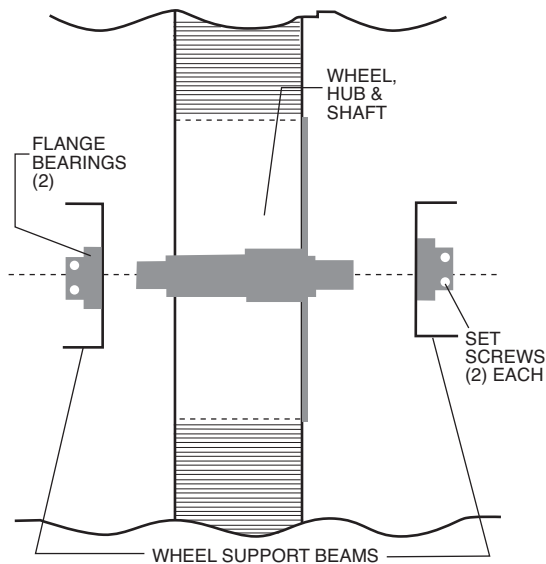

Fig. 31 — 62ECC and 62E2C Energy Transfer Wheel Assembly
Removing and Installing Non-Segmented Wheel for Cleaning (62ECC and 62E2C Units) — Non-segmented energy transfer wheels include the shaft and are secured to 2 wheel support beams by 2 flange bearings with locking collars. See Fig. 31.
4. Loosen the 2 set screws on each of the 2 wheel bearings. See Fig. 31.